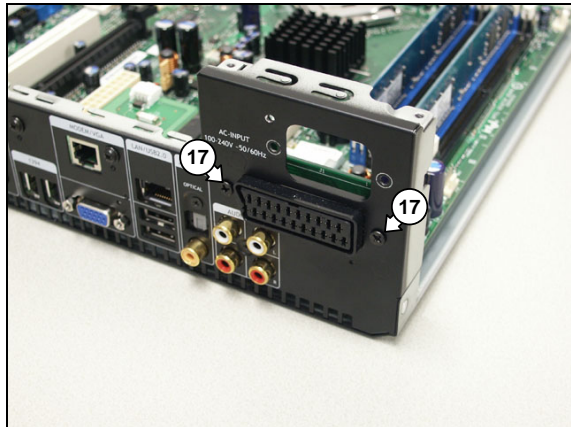

Figure 12.16-8
5. Remove the 2 mounting screws (17) from the SCART connector. See Figure 12.16-8.